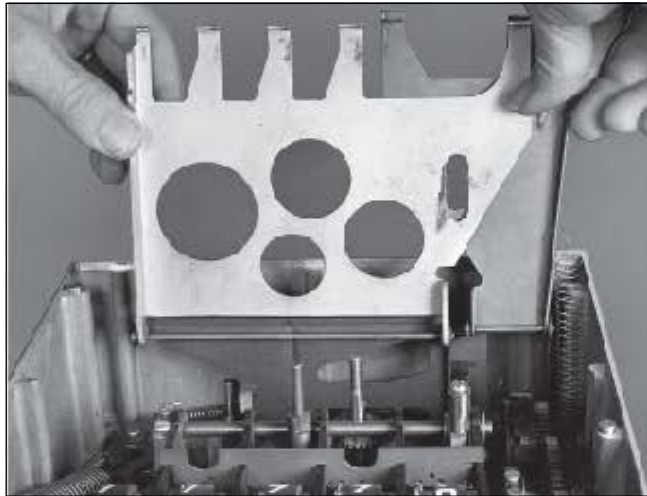

Figure 4. Lifting Rakes
4. Lift both rakes away from the wheels in the Preset (see Figure 4).